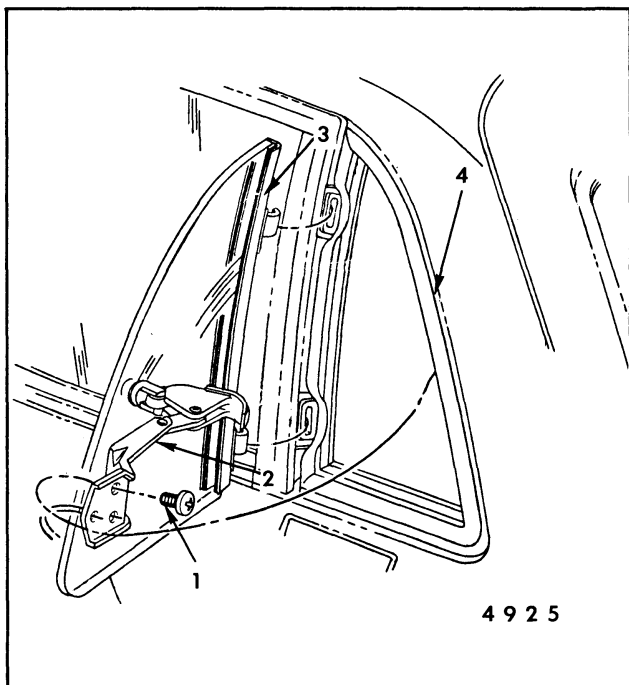

Fig. 6-39-Quarter Vent Window - "A" Station Wagons
2. Swing glass outboard far enough to permit disengagement of hinge straps (Fig. 6-39).